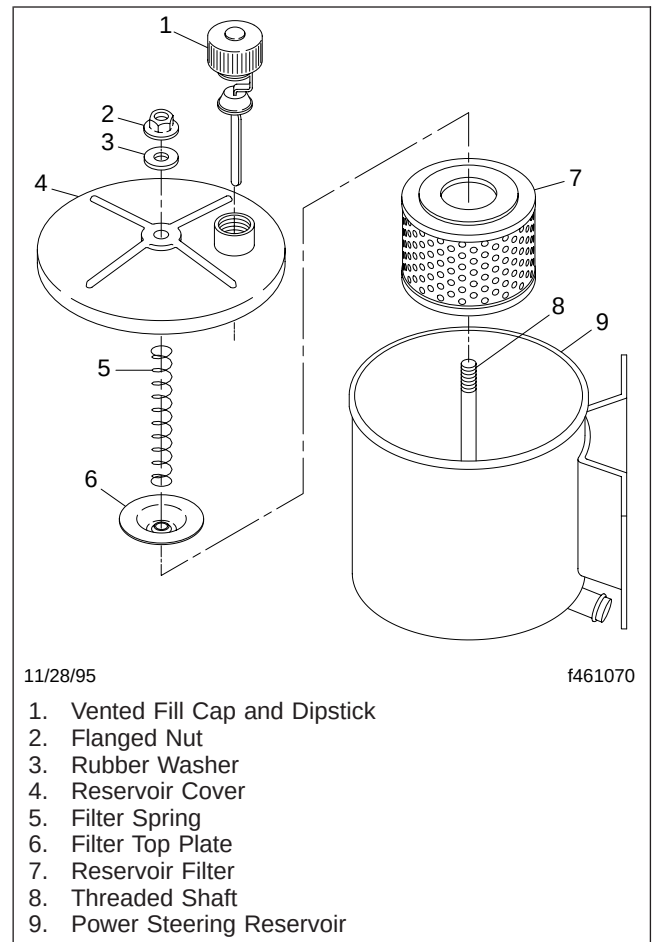

Fig. 1, Power Steering Reservoir and Filter, Century Class Conventional
- 3.1 Use one hand to apply downward pressure to the power steering reservoir cover. Remove the flanged nut and rubber washer. See Fig. 1. Remove the cover.